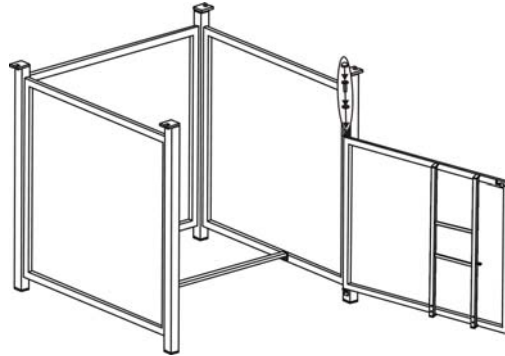

Figure 5
5. Put the door onto the "L" connector (pre-assembled), guide the pin on the lower "L" connector into the hole under the door. Then guide the pin on the upper "L" connector into the hole in the upper portion of the door. Use a 1/4"x15 mm bolt and washer to secure the "L" connector to the right side panel as shown in Figure 5. **Do not over tighten.**